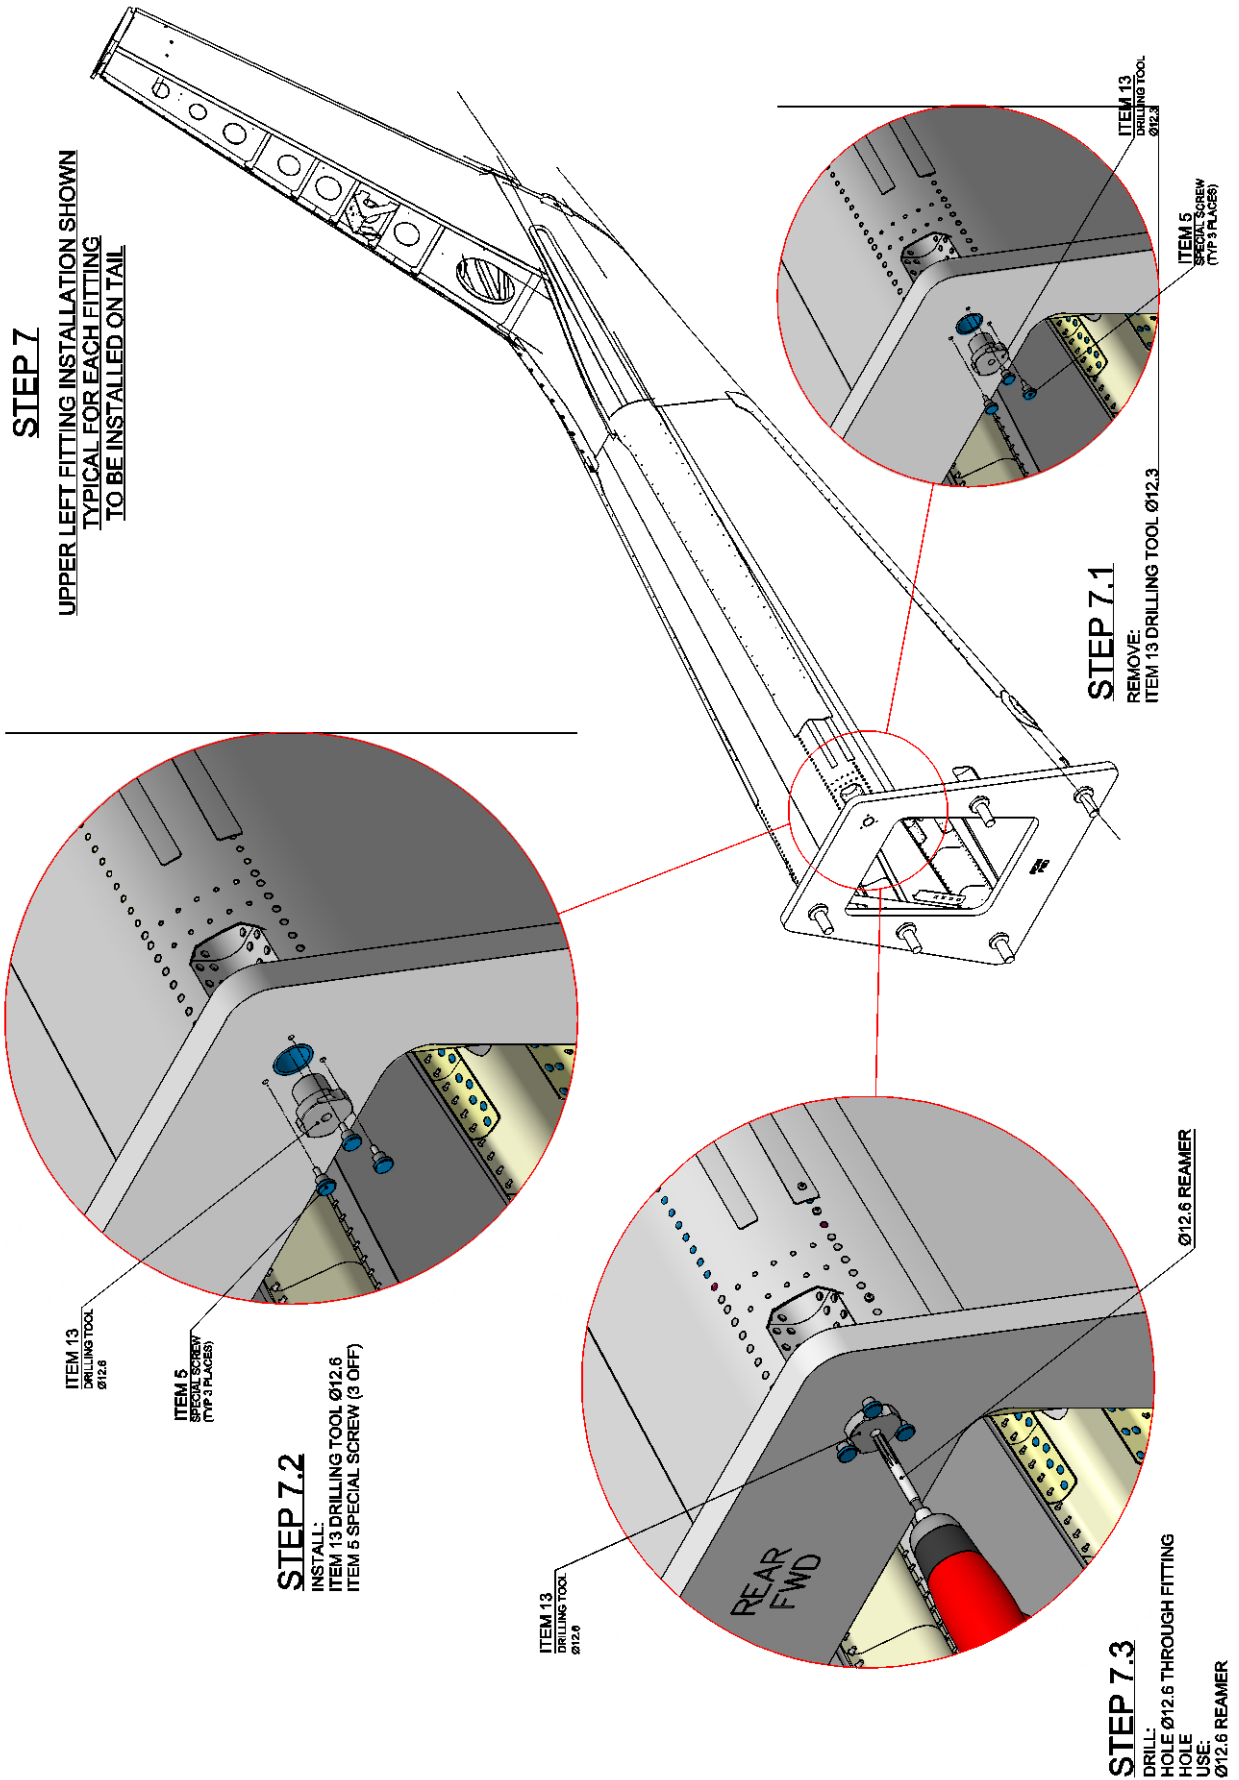

Figure A8
12. With reference to Figure A8, install the drilling tool  $\varnothing 12.6$  (ITEM 13) by means of n°3 special screws (ITEM 5) and ream the fitting hole to  $\varnothing 12.6$  by means of reamer  $\varnothing 12.6$ .